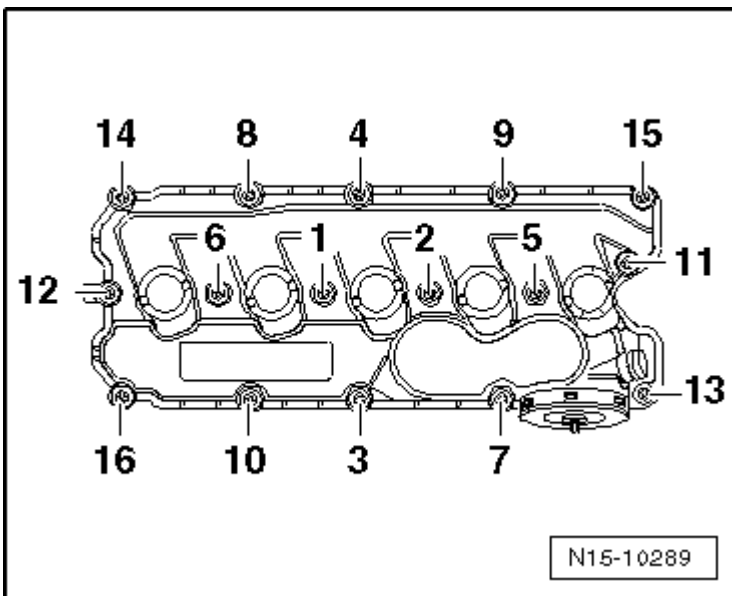

Fig. 2: Cylinder Head Cover Bolts Removal Sequence
- Tightening sequence, refer to **Fig. 2**.